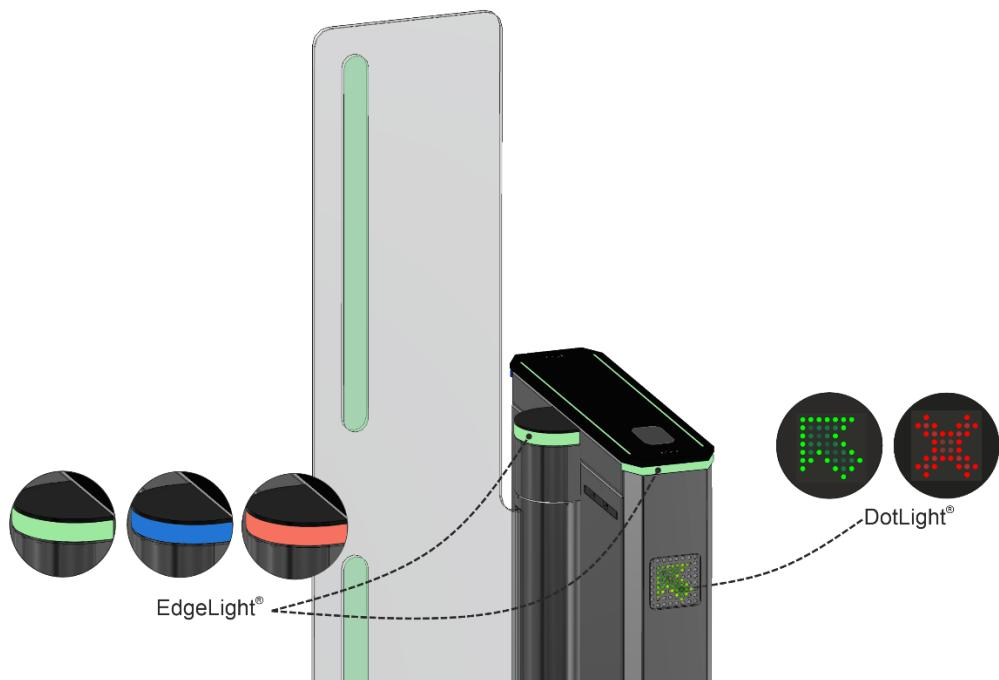

Fig.6 – Light indication of the turnstile status
The turnstile status is displayed by LED display board (3) *DotLights*[®], installed in the cabinet's frame. The lit blue LED means initial state of the turnstile (Fig.6). In case of attempt of unauthorized access red LED starts blinking and audible signal is generated on control desk. When opening command is issued, LED is changed to green from the side of authorized access. If unauthorized access is attempted when swing leafs (10) are opened, then the leafs will be closed, if there is no any obstacle in the leafs' swinging area.